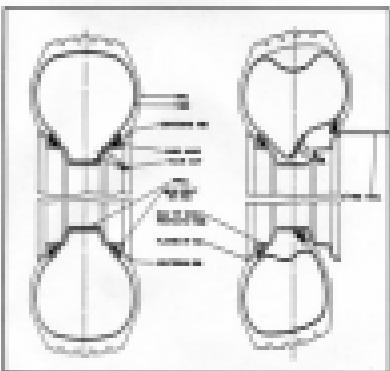

Fig. 505. Deep-Center Rims
1. The toe of each bead has a soft rubber tip, which must not be damaged in the process of removing or applying the tire. This soft rubber tip protects the tube from chafing. (See Fig. 505.)